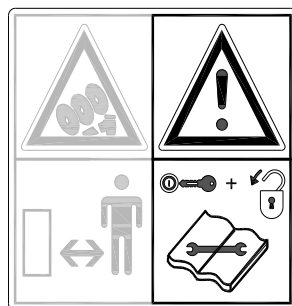
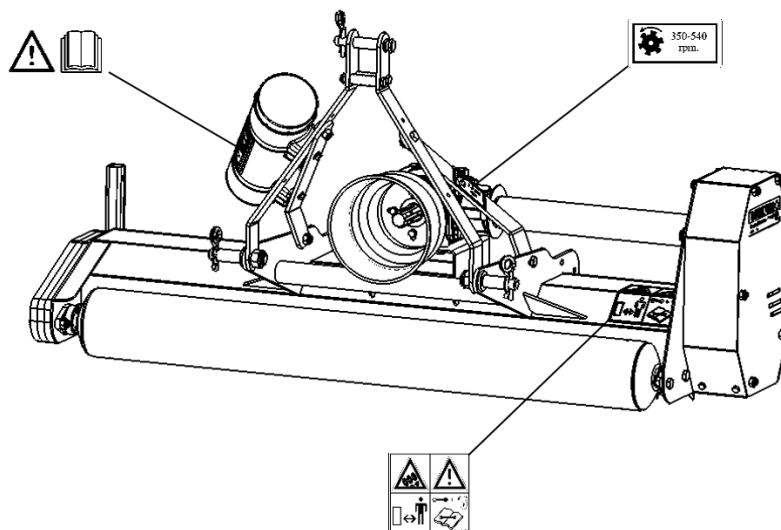

Figure 3
Figure 6
(Figure 3).
Safety stickers (Figure 3, 4 and 5) with an identical meaning are attached to (Figure 6) the Verti-Cut. These safety stickers must always be clearly visible and legible and must be replaced if they have become damaged.
- (7) Location of the safety stickers (Figure 6)